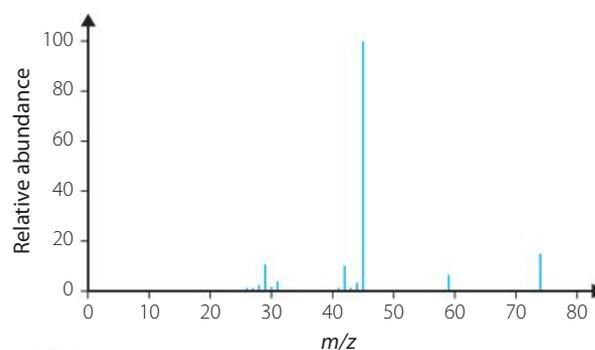

FIGURE 15.33 Mass spectrum of compound X
- The mass spectrum for X is shown in Figure 15.33.